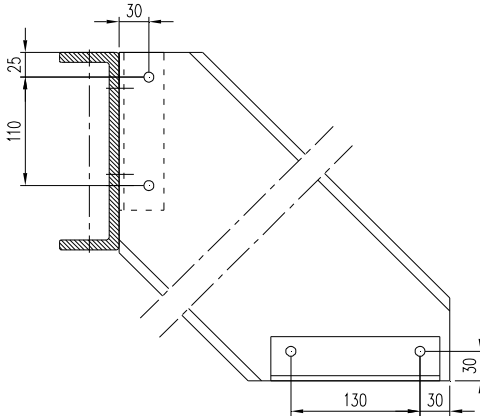

Fig. 1 Stringer fixing to FRP structure
S.S. angles, screws, bolts & nuts are used to fix the stairway on the top and the ground (Fig. 1 and 2).